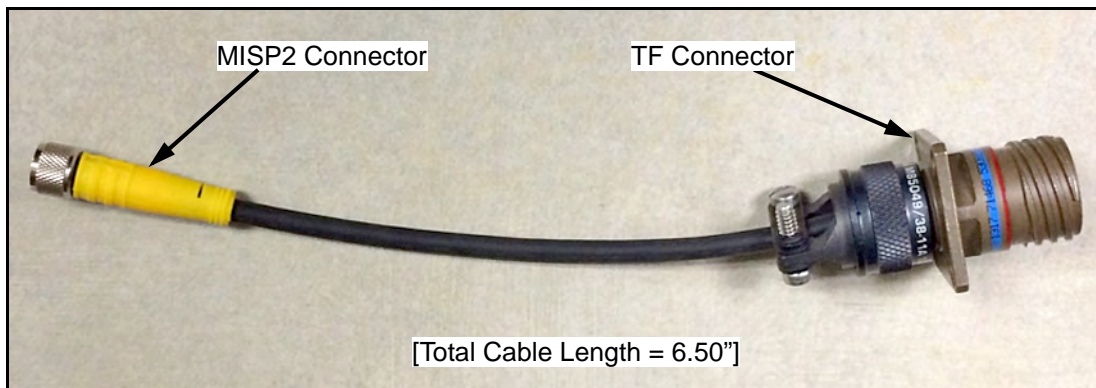

Figure 5: TF-MISP2 Converter Cable
If an existing moisture measurement system uses a **TF-Series** moisture probe, the cable for that probe may be adapted for use with an **MISP2** probe. To retrofit the existing system, refer to *Figure 5* below and complete the following steps:
3. Using GE *adapter cable 704-1362-00*, shown in *Figure 5* above, connect one end of the cable to the **MISP2** probe and connect the other end to the existing **TF-Series** cable connector.